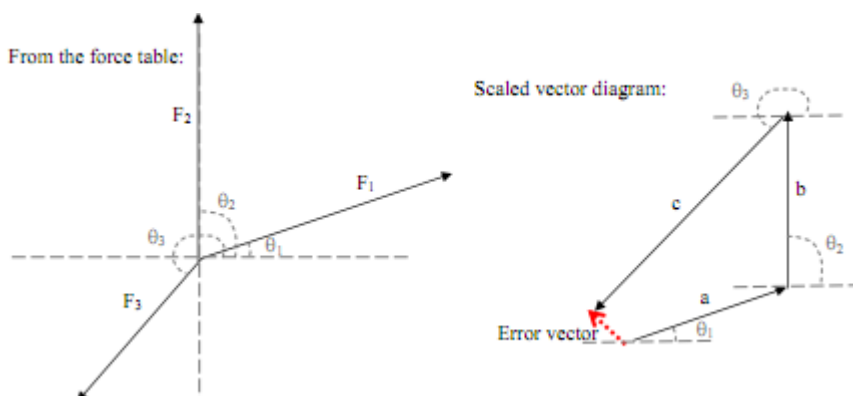

Figure 2.2 Error Vector.
8. If there are experimental measurement and random errors, the vector diagram will have a gap between the starting point of the first vector and the tip of the last vector (the final point). Draw a straight line from the starting point to the final point. This is the fourth vector which represents the error vector. See Figure 2.2 (below).